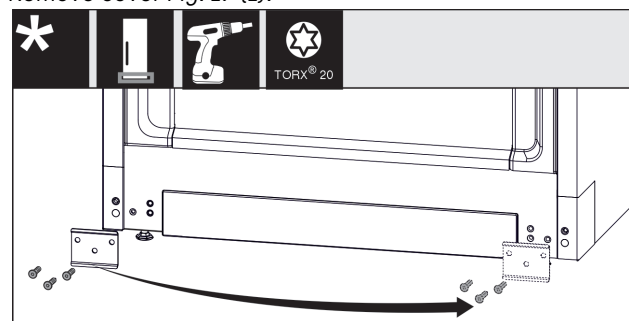

Fig. 20
- Unscrew the plate Fig. 20 (1), move it to the other side and screw it back on.